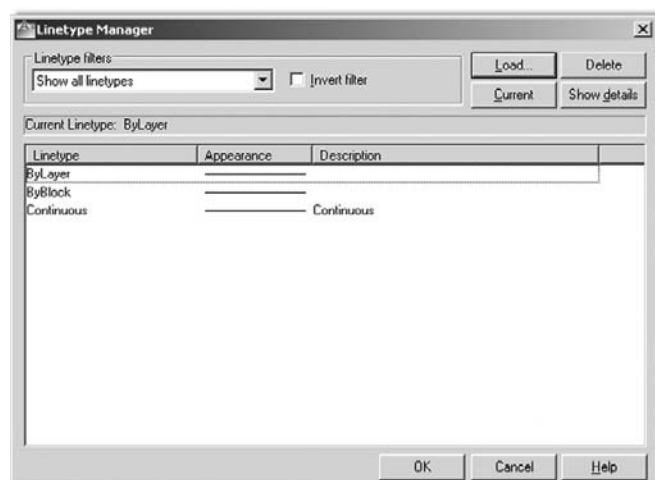

FIGURE 3.7
- Step 1.** Type in `linetype` and press Enter or choose **Format**→**Linetype**... from the cascading menu. The Linetype Manager (Figure 3.7) appears. If it is full of linetypes, it means they have been loaded earlier. If not, and the Linetype Manager is empty, go on to Step 2.